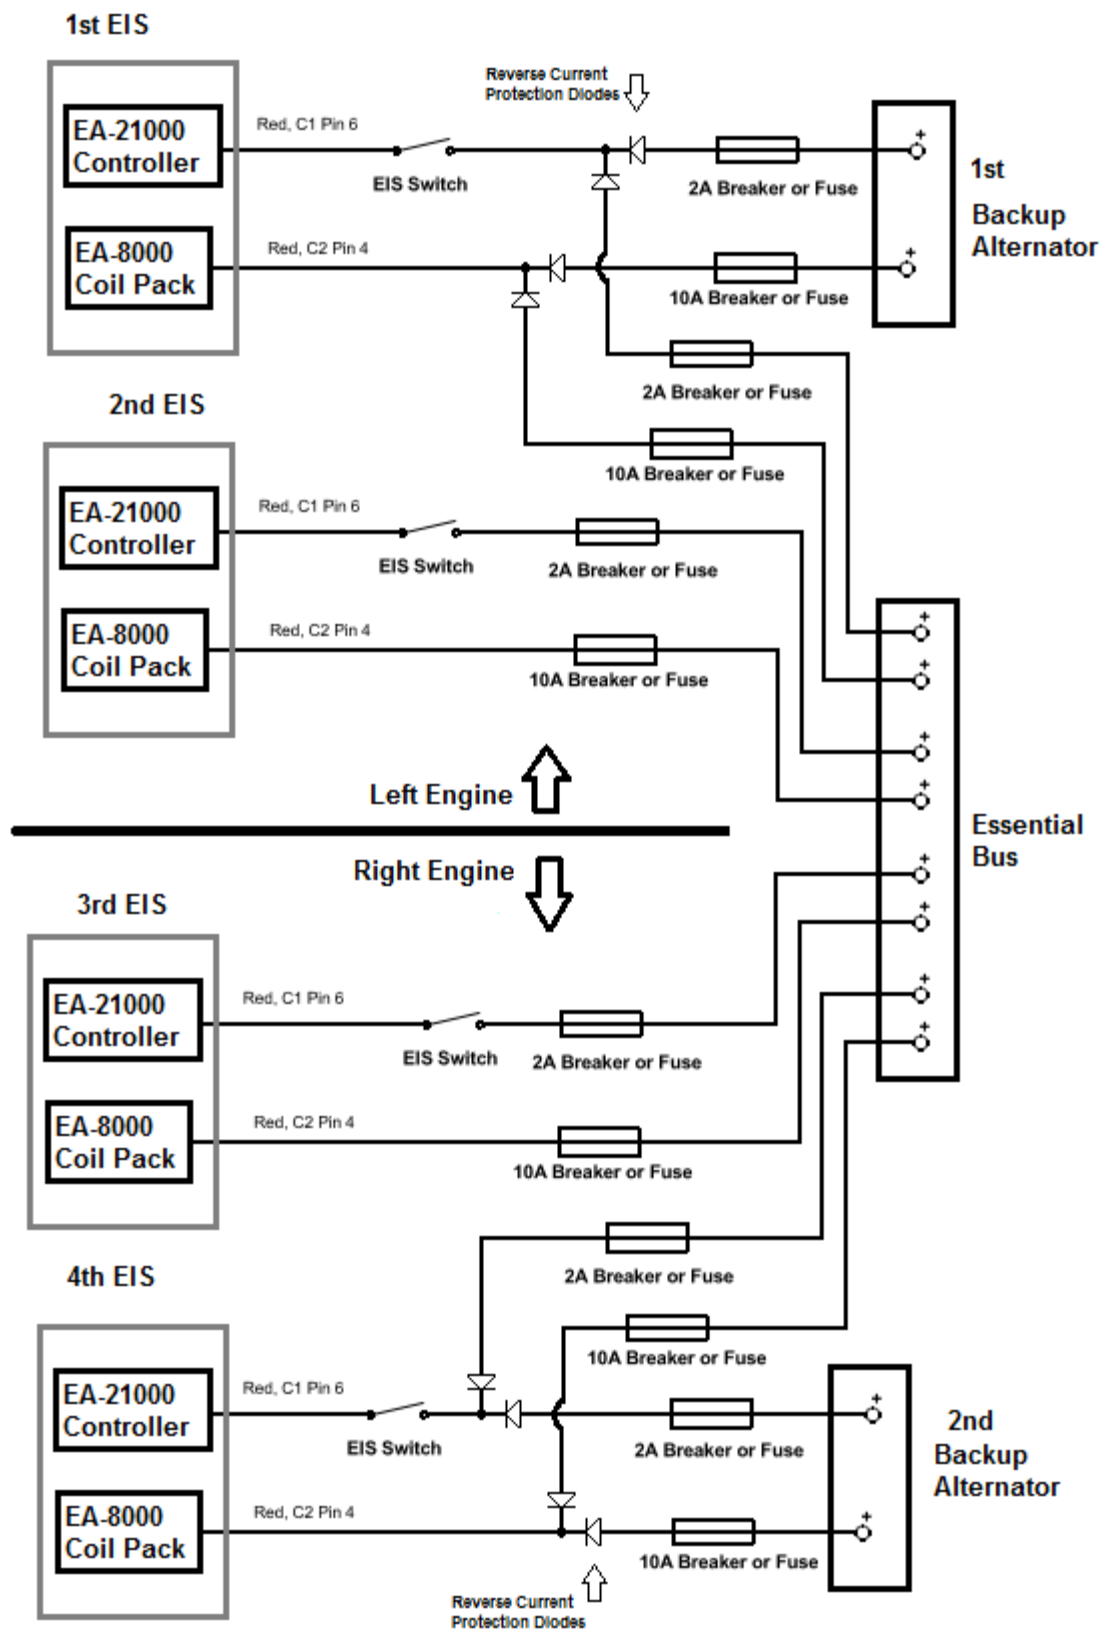

Figure 20: Twin Engine, Dual EIS, Single Electrical System Power Connections
- iv. **Dual EIS installation on both (twin) engines with a single electrical system:** At least two separate alternators will be needed. Connect C2-Pin 4 and C1-Pin 6 of one EIS from each engine to the electrical system (through 10A and 2A breaker or fuses). Connect C2-Pin 4 and C1-Pin 6 of one EIS on each engine to the separate backup alternators and essential buses using current protection diodes (through 10A and 2A breaker or fuses). See Figure 20.